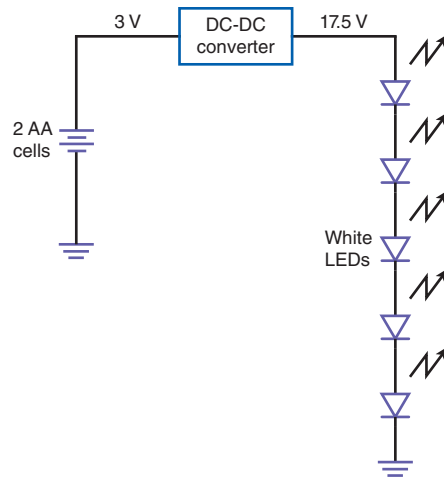

Figure S5-4 A dc-dc converter generates the higher dc voltage needed for 5 series LEDs.
When multiple LEDs are used as in flashlights or LED lightbulbs, they are usually connected in series, as shown in Fig. S5-4. Five white LEDs in series will require about 3.5 volts per device for a total 17.5 volts. If the LEDs are to be powered by AA, C, or D cells that deliver about 1.5 volts, you would need 12 cells in series, which is monumentally impractical and expensive. The solution to this is to use an integrated circuit (IC) called a dc-dc converter. It can take the input from two 1.5-volt cells in series to deliver 3 volts to the dc-dc converter. The converter then puts out the desired 17.5 volts.